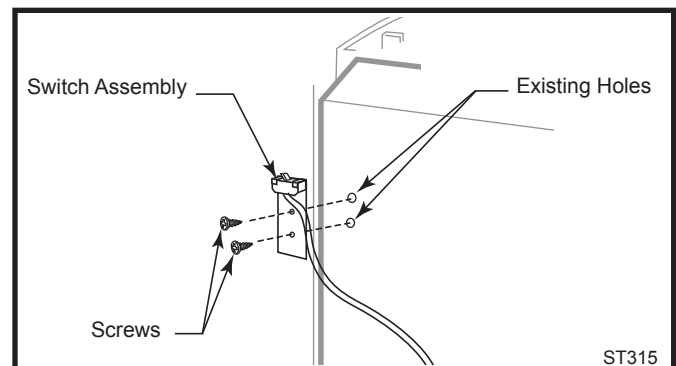

Fig. 25 Attach switch assembly to rear shroud.
1. Attach switch assembly to left rear side of stove shroud (when facing shroud) using two screws and existing holes in shroud. (Fig. 25)